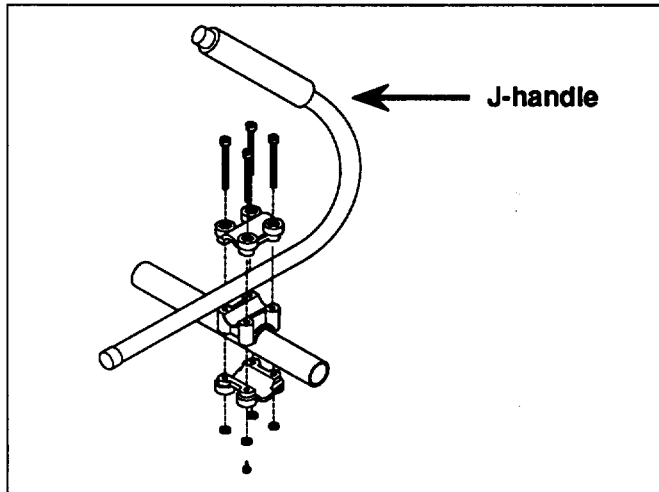

Fig. 1
1. Install the J-handle mounting assembly (Fig. 1).
2. After adjusting the J-handle to the desired position, tighten the mounting screws (Fig. 1).